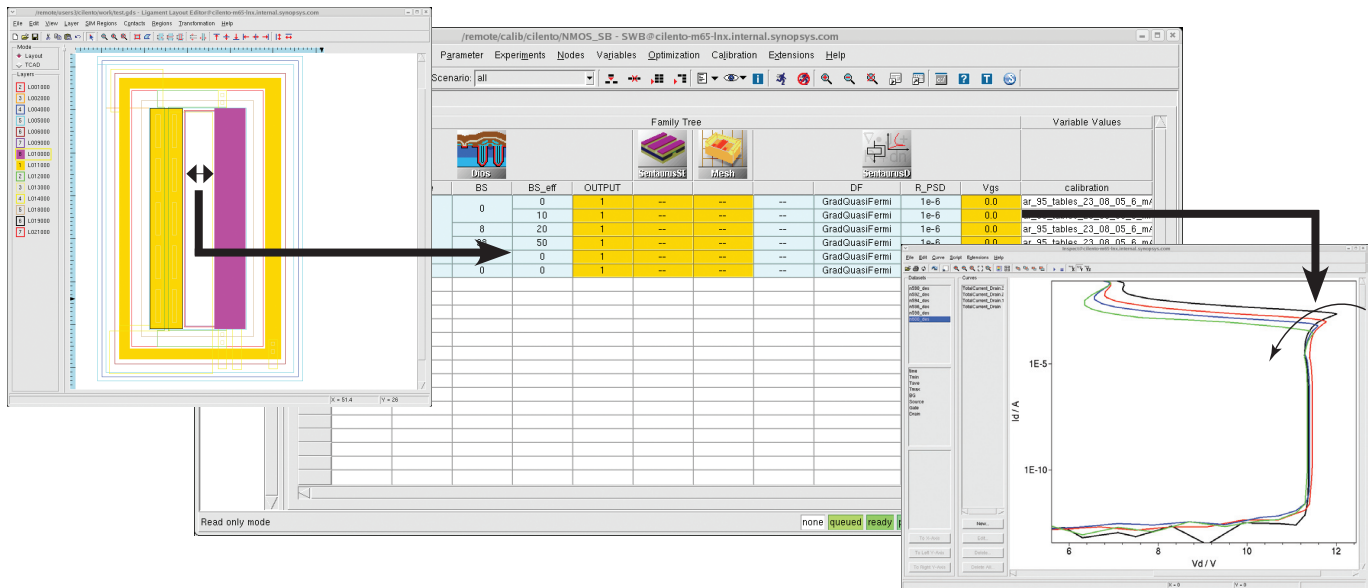

Figure 3: Simulation flow embedded in Sentaurus Workbench showing the influence of layout variations on the electrical characteristics.
- Simulation setups, projects, and results embedded in Sentaurus Workbench (see Figure 3)